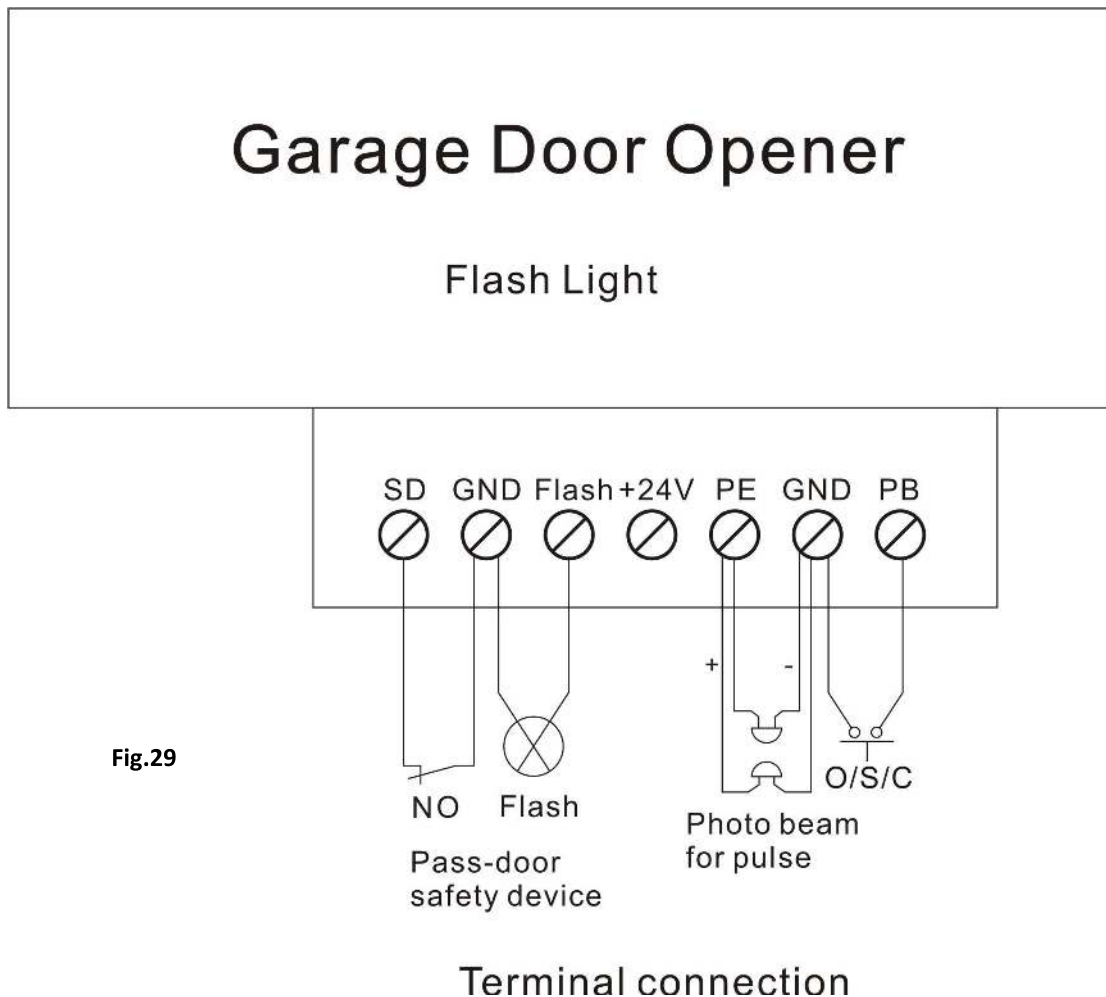

Fig.29
- 31.1 There are 5 main functions supported by the output terminals of the AGDO. (Fig.29)